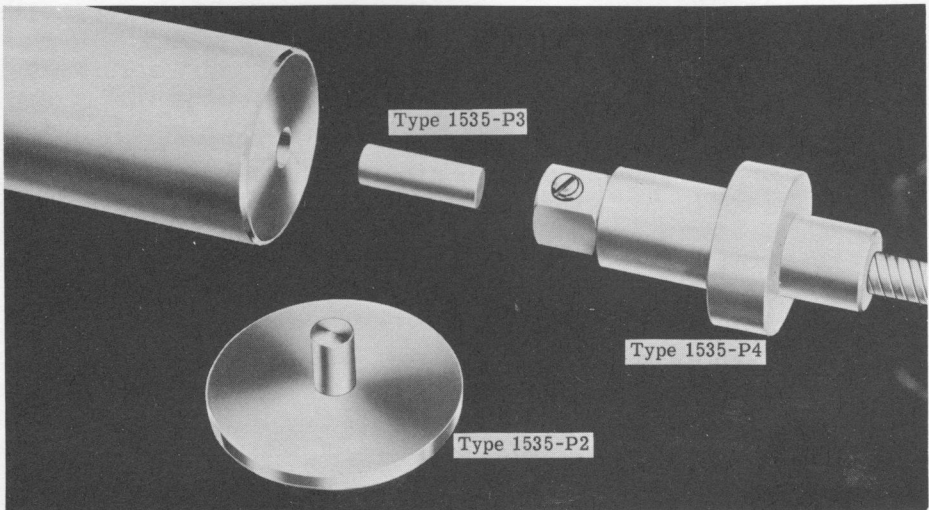

Figure 2. Close-Up of Alternative Coupling Devices.
To attach the rotor to the machine under inspection, use either the magnetic clutch or an auxiliary coupling device. Auxiliary couplings supplied are: Type 1535-P2 Adaptor Disc for small or nonmagnetic shafts; Type 1535-P3 Plug and Type 1535-P4 Coupling Adaptor for permanent installations. (See Figure 2.) Use of these couplings is discussed in paragraphs 2.1.2 and 2.1.3.
**2.1.2 CONNECTION OF TYPE 1535-P2 ADAPTOR DISC.** The Type 1535-P2 Adaptor Disc (Figure 2) is supplied for coupling to small or non-magnetic shafts. Drill a hole, 1/4 inch in diameter and 3/8 inch deep, into the end of the shaft, and drive the adaptor disc into this hole. Then attach the magnet to this disc as described in paragraph 2.1.1.